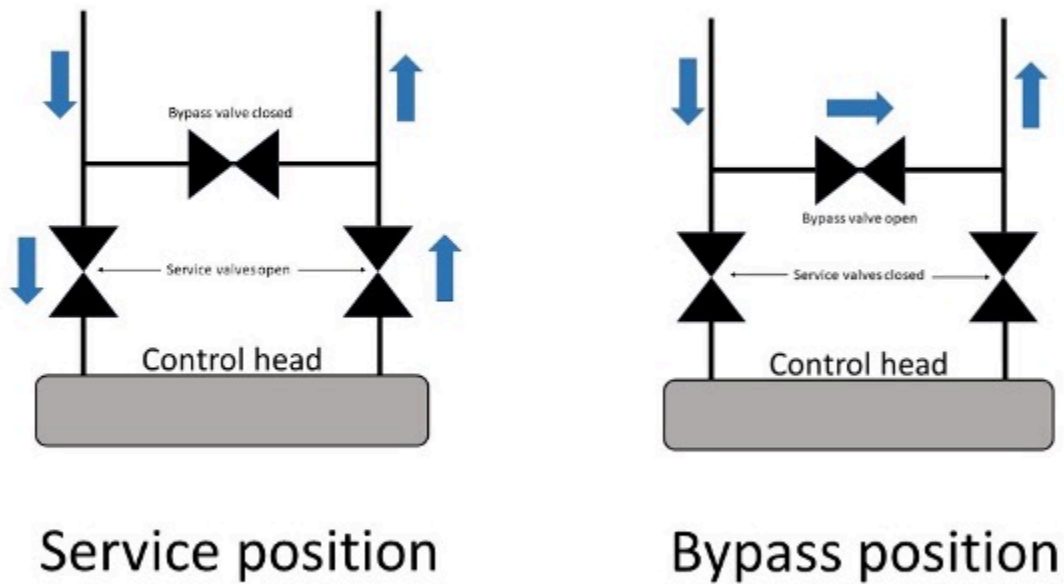

Figure 31. Onsite-fabricated piped bypass arrangement
Alternatively, a piped bypass can be constructed onsite using standard pipe, valves, and fittings. Figure 31 is a diagram of a common bypass arrangement in the service and bypass positions.
- Figure 31. “Onsite-fabricated piped bypass arrangement” by Camosun College is licensed under a CC BY-NC-SA licence.